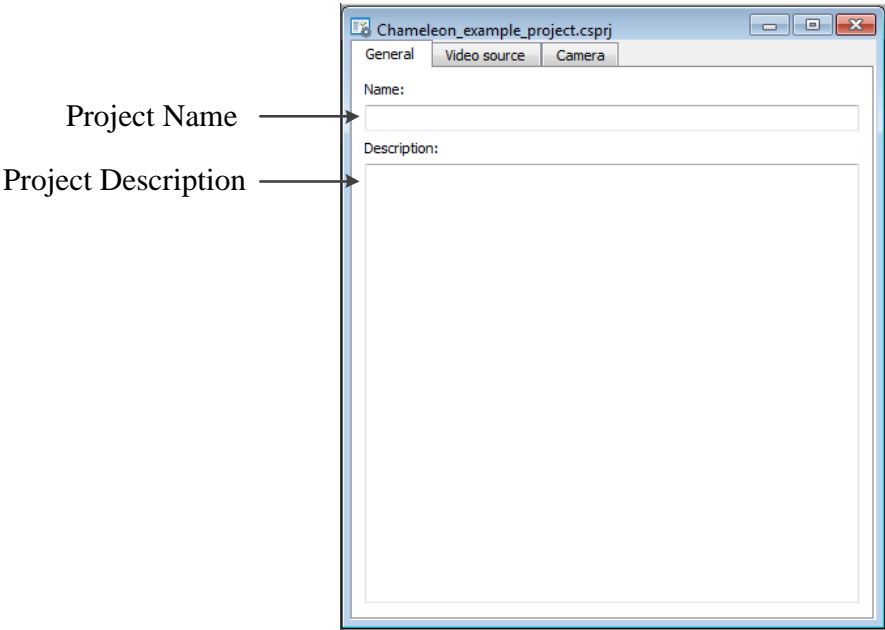

Figure 4 : General project navigator tab
1. A General tab, used to specify the project name and description as shown in Figure 4.